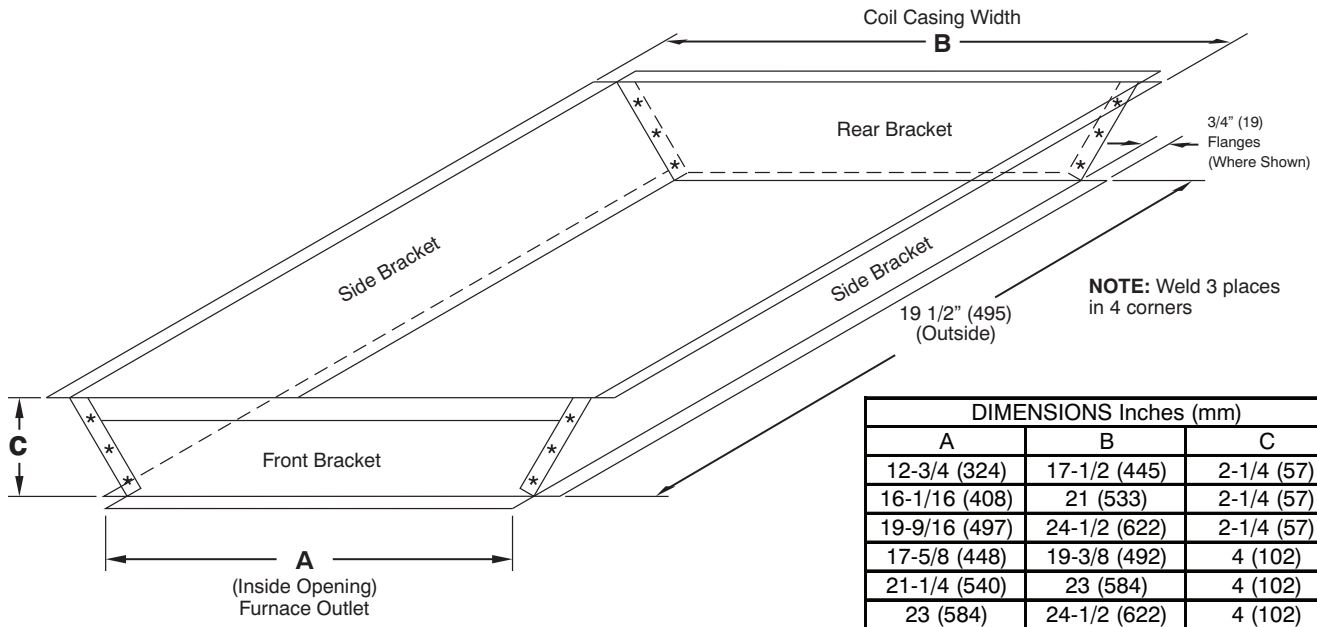

Fig. 5 - Recommended Transition
STANDARD MODEL COIL APPLIED CENTERED OVER NARROW FURNACE REQUIRE A MINIMUM TRANSITION AS SPECIFIED IN FIG. 5.
1. Prepare transition, following recommended transition drawing. See Fig. 5.
NOTE: If coil is not being installed in the standard orientation (front of coil matching front of furnace) then coil must be raised above furnace as specified in Fig. 5.
3. Coils that under-hang (narrower than furnace) must have a field-fabricated transition between furnace and N-coil casing as specified in Fig. 5.